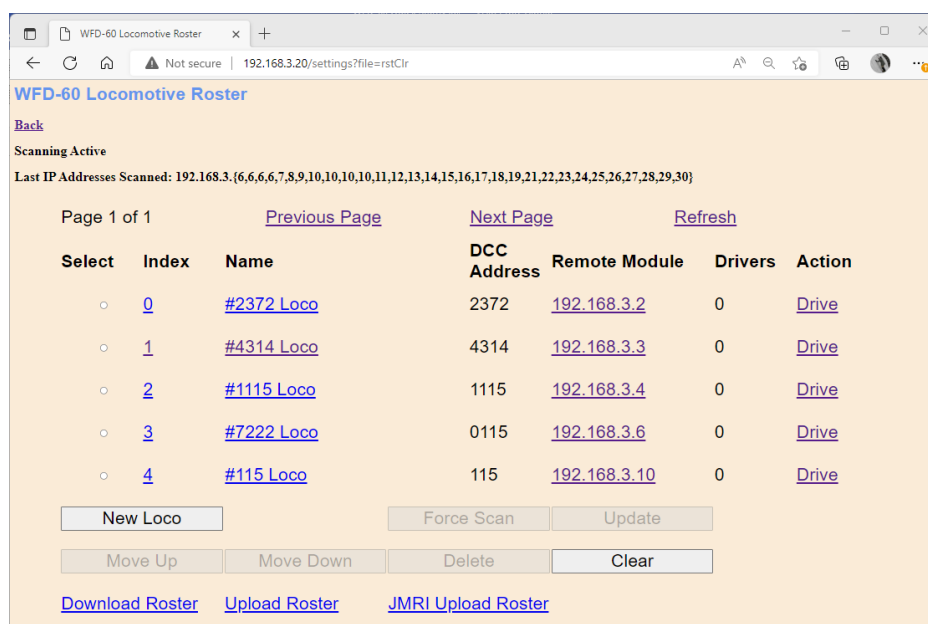
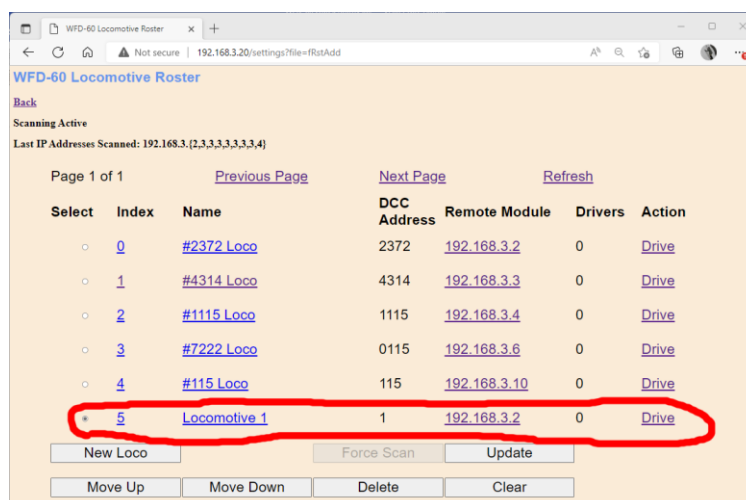
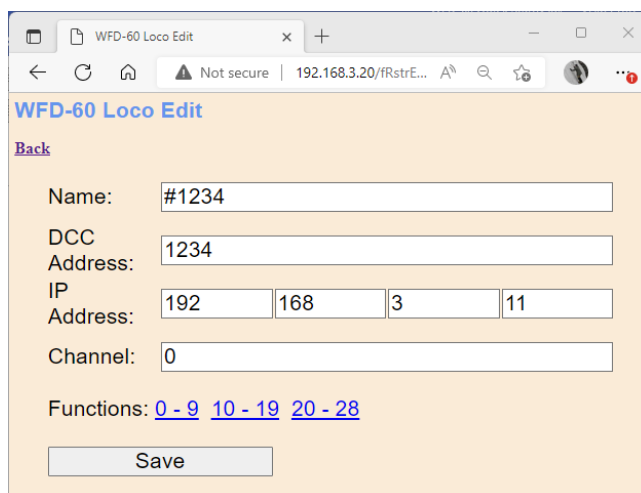

Figure 37 The Locomotive Roster Page
Figure 39 The Locomotive Roster Page after the New Loco Button is Clicked.
Figure 40 The Loco Edit Page. Setting the Properties of a New Locomotive to Useful Values.
The Locomotive Roster Page in Figure 37 shows the locomotives fitted with Wifitrax modules on your home net that are available to drive from the WFD-60. This is its Locomotive Roster. This roster will be delivered to a WiThrottle Protocol app such as Engine Driver or WiThrottle or a device such as UWT-100. The roster on those devices will appear in the same order as displayed on this page.
- (1) By the WFD-60 Scanning Process. The WFD-60 automatically scans a range of IP Addresses on your home network between the bounds defined in the Settings page as First Scan Address and Last Scan Address. The scanning process only occurs if the Rail Mesh Scanning Enabled checkbox is checked, or if you have clicked the Force Scan button when it will occur just once. Scanning is enabled by default after leaving the factory and after a factory reset. By default, the First Scan Address is set to 2 and the last is set to 30. If you have many computers or devices on your home network, you might need to extend this.
- (2) By adding locomotives manually. The New Loco button on the Locomotive Roster page will add a new locomotive to the roster. The new loco, in Figure 39, will have default values which will not normally represent a loco on your layout, so you will have to define the settings manually as in Figure 40.
Up to 100 locomotives can be recorded in the Locomotive Roster and entries are indexed from zero to 99. The index value defines the position in the roster and roster entries displayed on the Locomotive Roster Page in Figure 37 are paged with ten entries per page, the Previous Page and Next Page hyperlinks enabling access to the required page.
Each time a Wifitrax module in a locomotive responds to the scanning message, the WFD-60 will add the locomotive to the roster at the lowest available index position. The Name of the locomotive will be set to the Name of the module as defined in its Settings page, joined to the name of the Locomotive in the module's Locomotive page. The DCC address will be the value defined in the module's Locomotive page. So, for the first loco in Figure 37, the module name was set to "#2372" and the Locomotive name was set to "Loco". The DCC Address was set to 2372 in the loco module and the locomotive was found at IP Address 192.168.3.2.
Clicking the hyperlink on Figure 37 formed by the index or the name of the Locomotive, will open the Loco Edit page in Figure 40. Do not click the Remote Module hyperlink at this time.